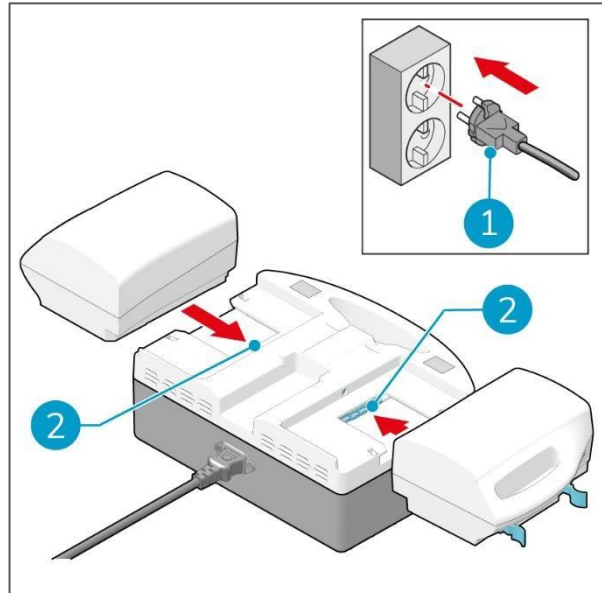

Figure 7
1. Plug the main power cable into the wall socket (Figure 7, pos 1).
2. Align each battery with the charging dock (Figure 7, pos 2) and insert each battery, until you hear a "click". The batteries are now fixated and ready for charging.